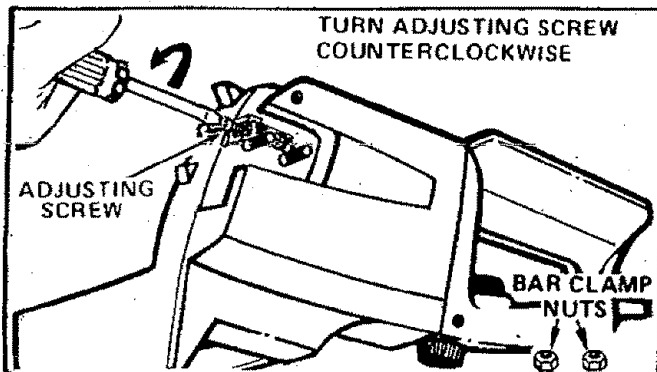

Figure 8
3. Turn the Adjusting Screw counterclockwise to move the Adjusting Pin almost as far as it will go to the rear. Figure 8. Do not remove Adjusting Pin from the unit.